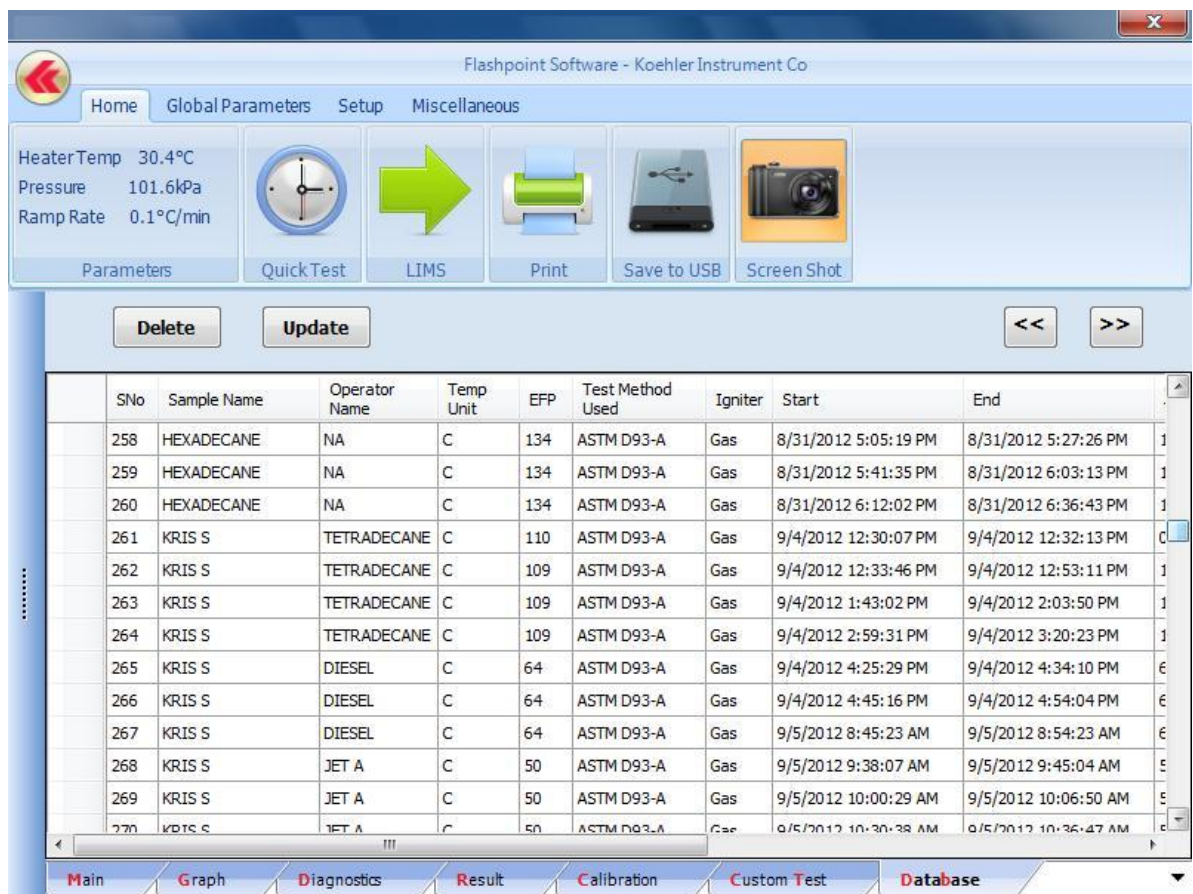

Figure 21: Database Screen
10. Database Screen - Clicking on the Database tab will display the Analyzers Database as shown in **Figure 21** below. A maximum of 50 results will be accessible in this menu, the excess of which will be sent to an archive folder in the PC's hardware.